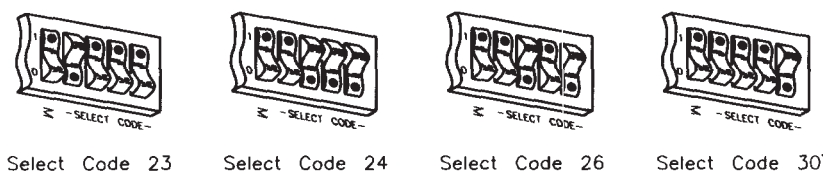

Figure 5-34.
- Set the LAN Select Code switches to one of the four select codes given in Figure 5-34, unless you have used them elsewhere.